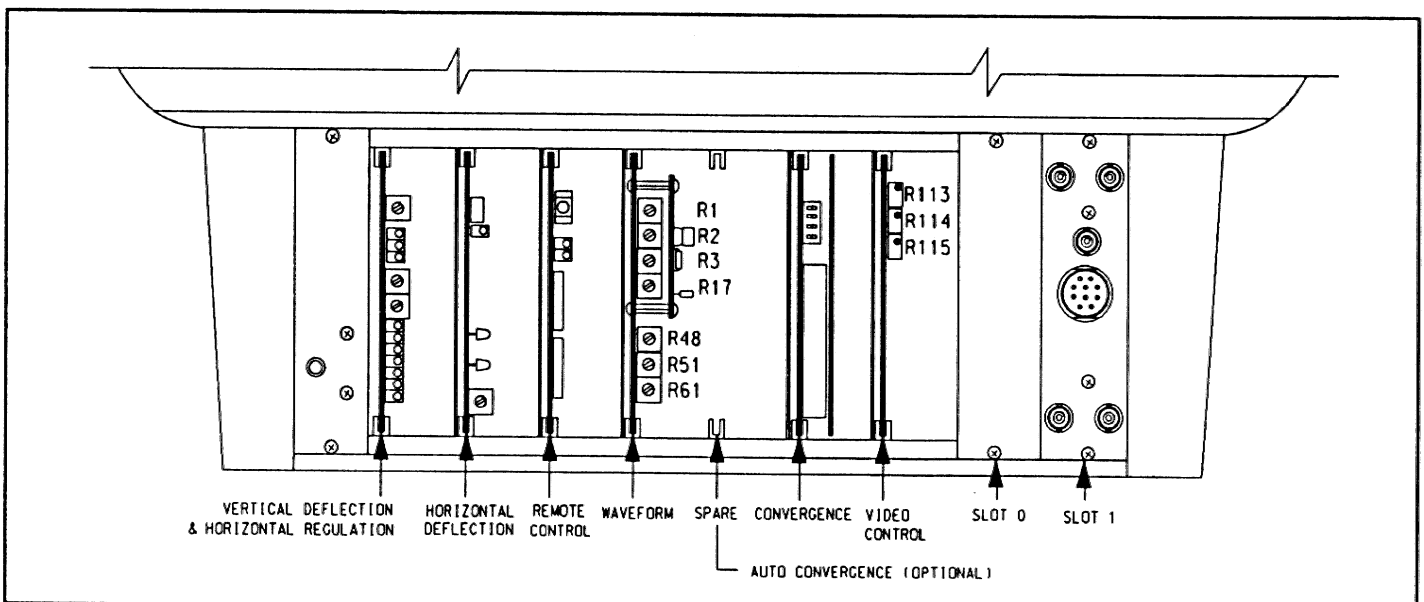

FIGURE 7-3. Video Control and Waveform Module Controls
red crosshatch bars disappear. Repeat, for the green and blue CRTs, adjusting R114 and R115 respectively. See Figure 7-3.
h) Turn all switches on (SW1, SW2 and SW3). Adjust BRIGHTNESS to 5. Increase CONTRAST to 3. Connect the white field generator. Turn the three trimpot drive controls (red R1, green R2, blue R3) on the Waveform module fully clockwise. Refer to Figure 7-3.